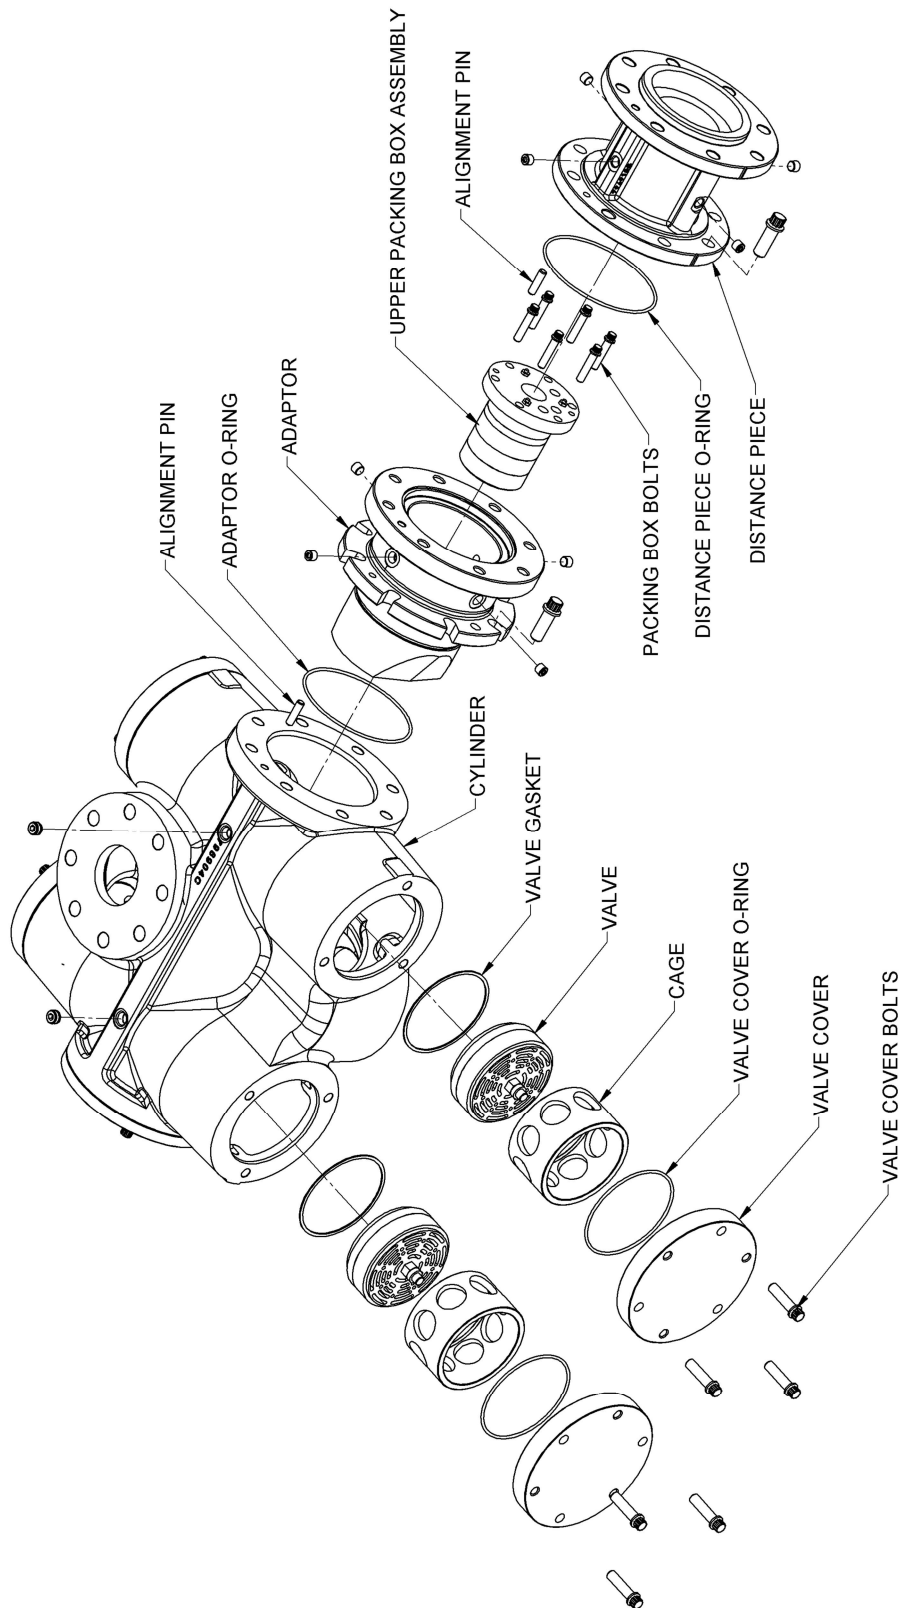

Figure 7 – Upper Compressor Assembly
13. To remove the Cylinder (Figure 7)
14. To remove the Adaptor (Figure 7)
15. To remove Upper Packing Box Assembly (Figure 7)